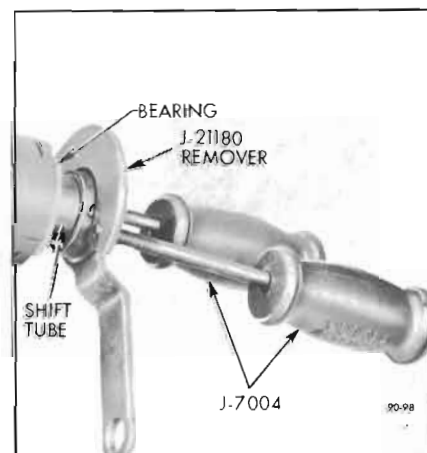

Figure 90-98—Removing Shift Tube 45-46-48-49000 Series
6. On 45-46-48-49000 series remove the shift tube downward through column using two Slide Hammers J-7004 and Remover J-21180. See Figure 90-98.